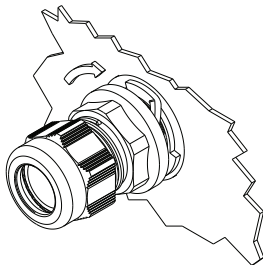

Figure 2
2. Tighten body to enclosure (Figure 2).